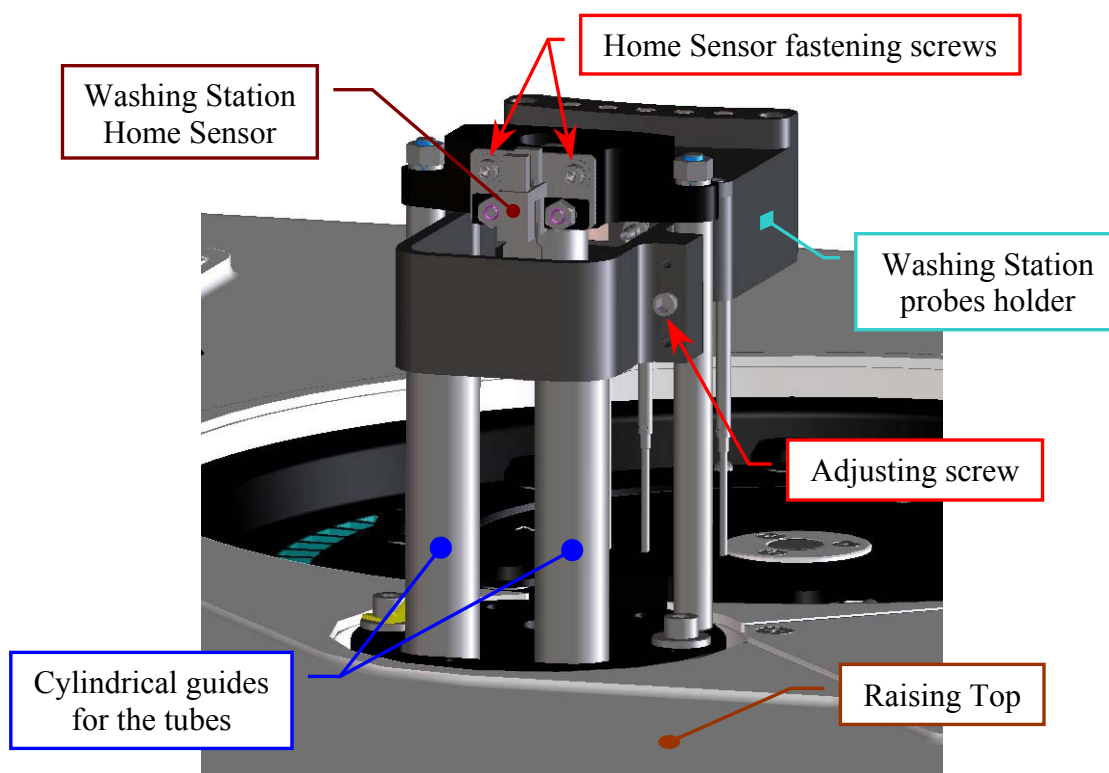

Fig. 118 – Home Sensor of the Washing Station
- c. loosen the two fastening screws of the Washing Station Home Sensor (**Fig. 118**);
- e. tighten the two fastening screws of the Washing Station Home Sensor (**Fig. 118**);
If the horizontal backlash of the Washing Station probes holder is excessive, then adjust it acting on the adjusting screw (**Fig. 118**).